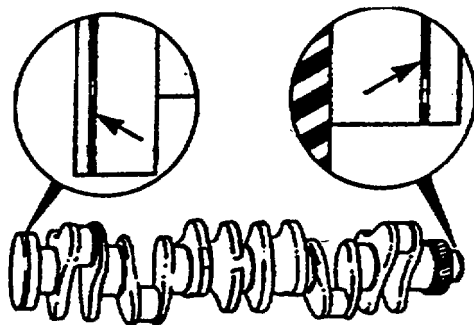
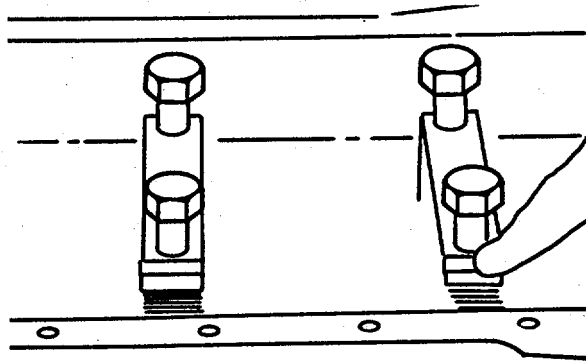

FIGURE 4-63. Inspecting Seal Surfaces
FIGURE 4-69. Removing Main Bearing Caps.
- c. Inspect the crankshaft seals wear surfaces for scratches or grooving as shown in FIGURE 4-63.
- a. Remove bearing sleeves (2, and 5, FIGURE 4-69) and straight pin (7).
- a. Remove the main bearing caps (1 and 3, FIGURE 4-63) as shown in FIGURE 4-69.